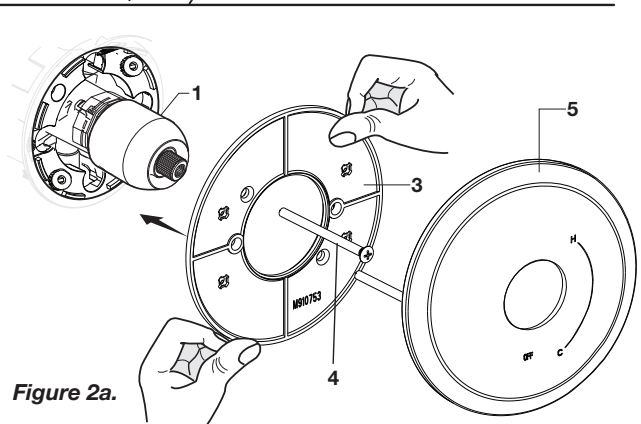

Figure 2a.
- **Figure 2a.** Push MOUNTING PLATE (3) onto CAP (1) and attach to valve body with LONG SCREWS (4).
- **Figure 2a.** Push ESCUTHEON (5) on to MOUNTING PLATE (3).